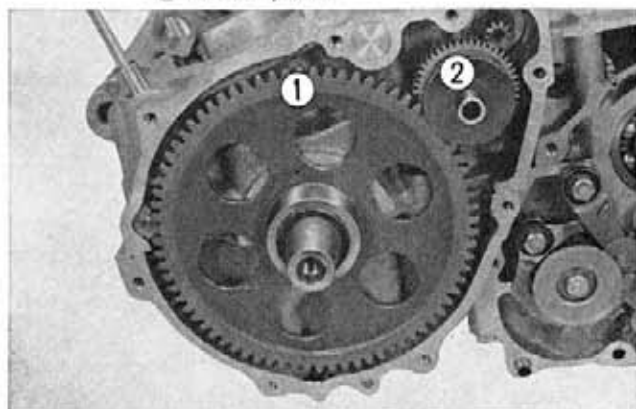

Fig. 3-69 ① Starting clutch gear
4. Remove the starting motor reduction gear and the starting clutch gear. (Fig. 3-69)